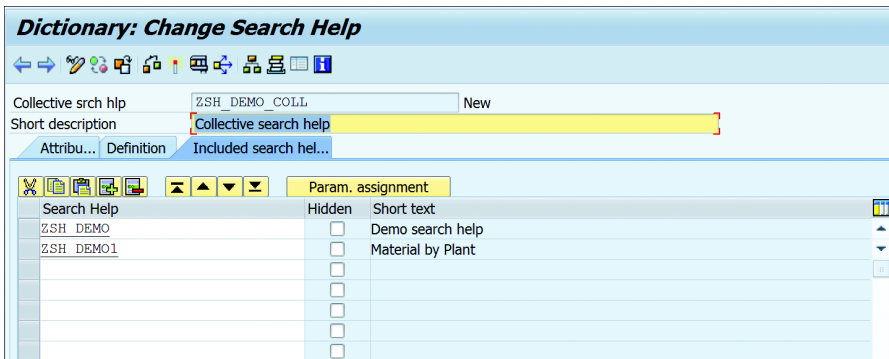

Figure 10.72 Include Search Helps
4. Click the INCLUDE SEARCH HELPS tab (see Figure 10.72) and include the search helps that should be part of the collective search help. You can include both elementary and collective search helps.
- For each search help listed, you can set the HIDDEN flag (refer to Figure 10.72) to hide the search help. This is useful when you want to hide a particular search path in a certain system.